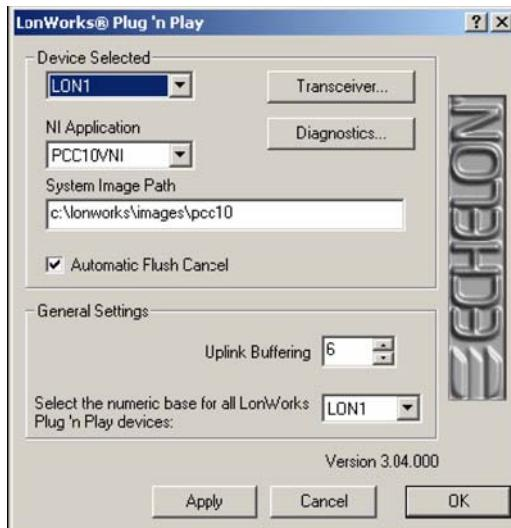

Figure 14: LONWORKS Plug'n Play Dialog Box
2. Double-click the LONWORKS Plug'n Play icon. The LONWORKS Plug'n Play dialog box appears (Figure 14).